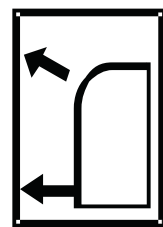

Fig. 18 — Dual Air Flow
2. Make the airflow selection that best suits you. When setting the air flow selection, use the **Dual Air Flow** icon (see Fig. 18).